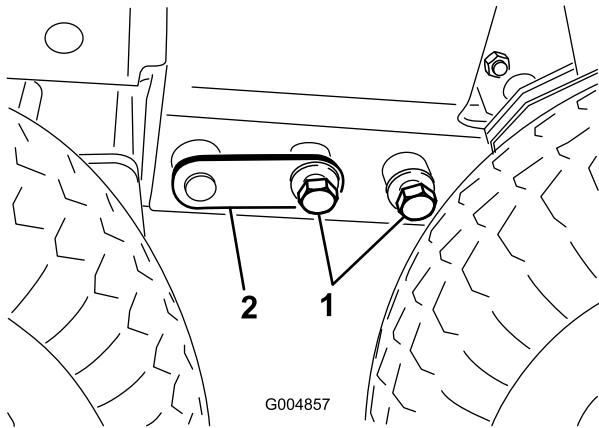

Figure 115
26. Adjust the floor jack or rock the cab with your hands as required to install the bolts (3/4 inch) on each side (Figure 115). Torque the bolts to 359 N·m (265 ft-lb).